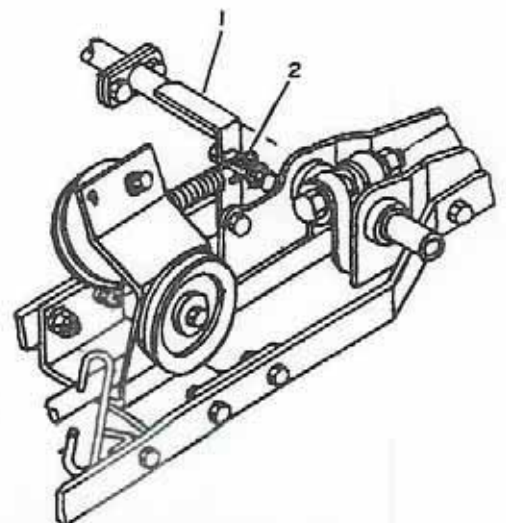

FIGURE 10
- d) Tractor with electric PTO clutch: Loosen the belt tensioner (fig.10, item 1) by moving the lever forward. Put tension on the V-belt after it is installed by moving the lever (item 1) toward the rear.
- b) Tractor with electric PTO clutch: Loosen the belt tensioner (fig. 10, item 1) by moving the lever forward. Put tension on the V-belt after it is installed by moving the lever (item 1) toward the rear.